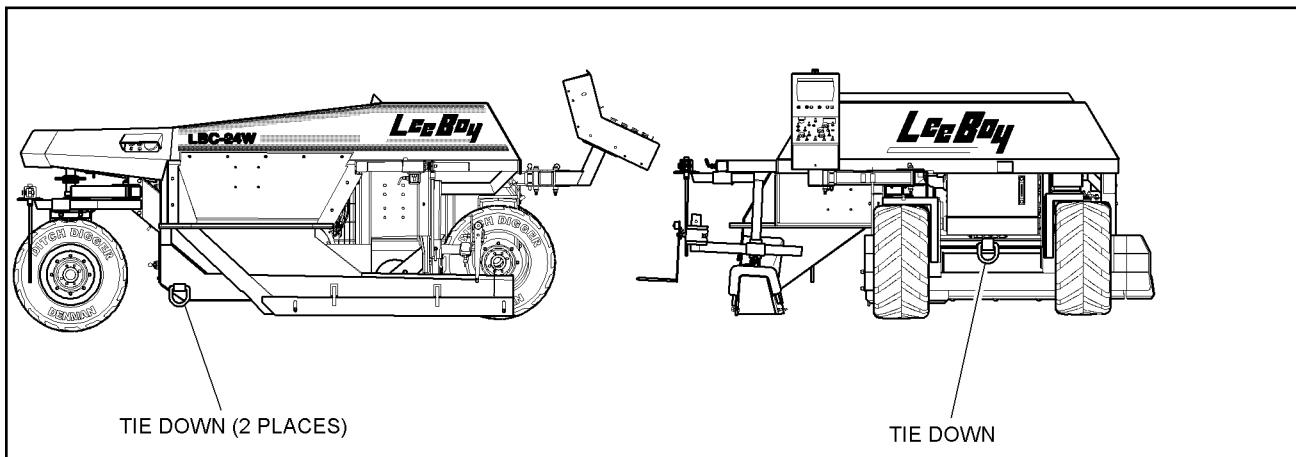

FIGURE 3-15. TIE DOWN POINTS
8. Secure the machine to the trailer using the tie-downs located at three places, one on either side at the front and one between the rear wheels of the machine frame. See Figure 3-15.